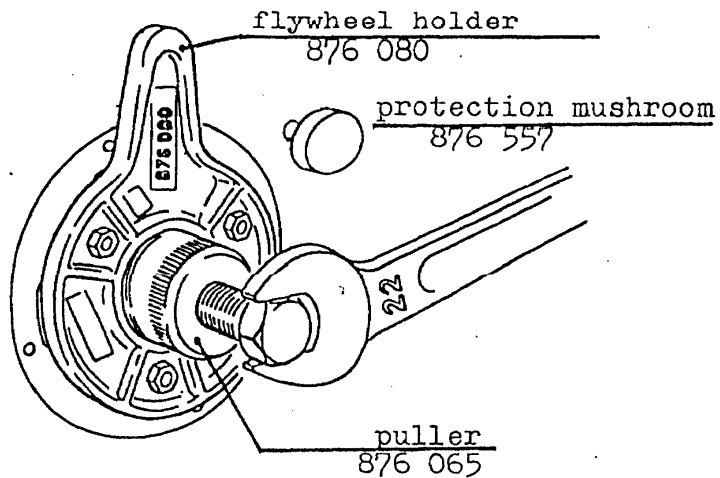

Fig. 2
1.2. Bolt flywheel holder to magneto flywheel with 3 hexhead screws M8 x 16 (fig. 2)
1.4. Fit protection mushroom to crankshaft, mount flywheel holder and puller and remove magneto flywheel (fig. 2)